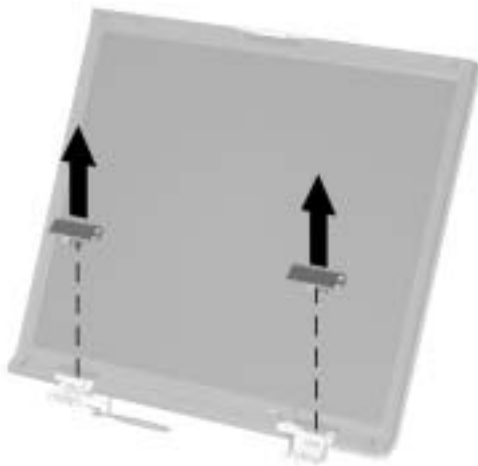

Figure 5-27. Removing the Display Hinge Covers
11. If necessary, remove the display hinge covers by pressing up on the bottom of the covers from behind the display assembly (Figure 5-27). Note that the hinge covers are not interchangeable.